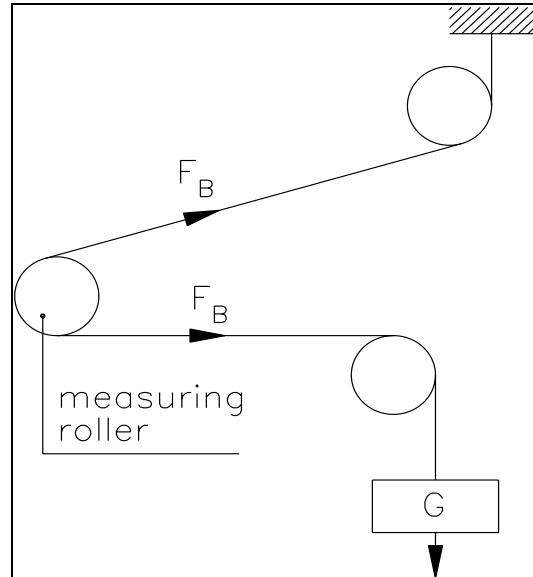

Fig. 12: Calibrating the measuring amplifier
The following instructions are referring to a setup and calibration inside the machine. The material tension will be simulated by a weight (Fig. 12). Offset and Gain calibration is done in the PLC or the master computer.
- Load material or rope with a defined weight (Fig. 12). The roller configuration must correspond to the real configuration in the machine (wrap angle, distance of the rollers etc.)